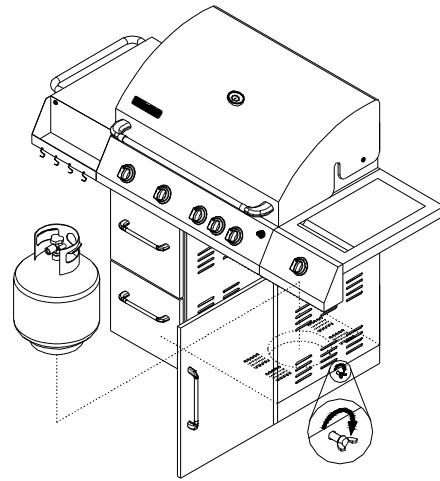

Figure 16
1. Open the front doors of cabinet. Place the 20 lb tank with foot ring into the hole in bottom shelf. Make sure the tank valve is in OFF position. (Fig. 16)